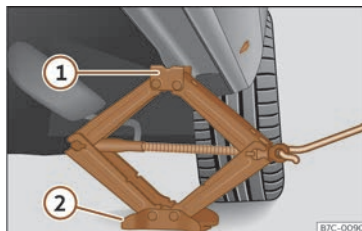

Fig. 213 Crossbar: mounting the jack on the vehicle.
- Turn the jack crank handle, located below the crossbar support point, to raise it until the tab ① >>> Fig. 213 is below the housing that is provided.
- Align the jack so that the tab ① “grips” onto the housing provided on the cross member and the mobile base ② is resting on the ground. The base plate ② should fall vertically with respect to the support point ①.